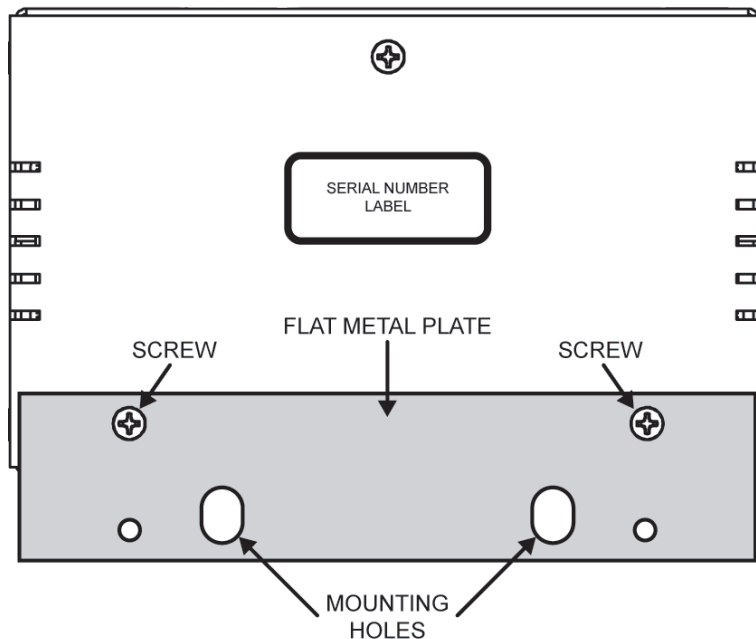

Figure 4.2 Flat Metal Plate Installation Option
2. Install the **Flat Metal Plate** onto the bottom of the chassis **Figure 4.2** using the screws removed in **Step 1**.